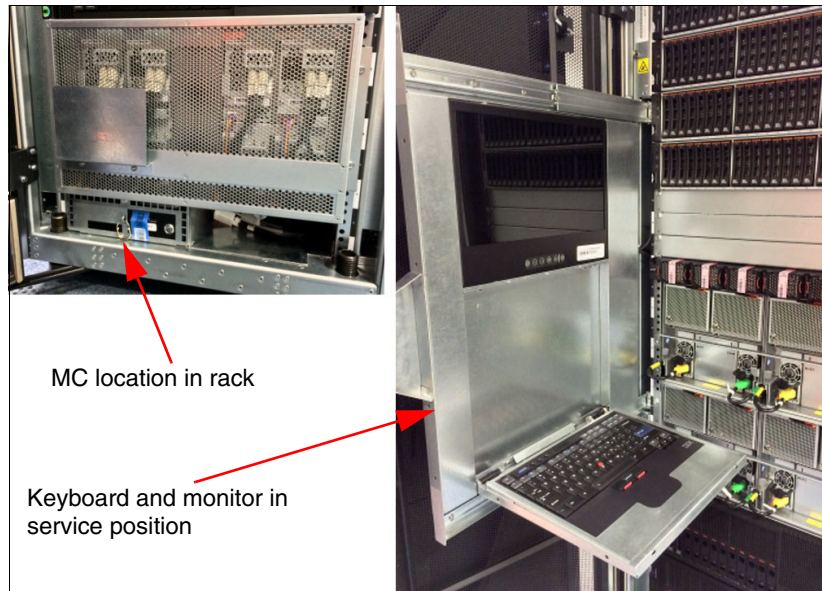

Figure 8-1 MC location in DS8880
The MC consists of a small form factor (SFF) personal computer, as shown in Figure 8-1.
1. At the DS8880, put the keyboard and monitor in the service position. See Figure 8-1 on page 221 if help is needed in locating the keyboard and monitor.